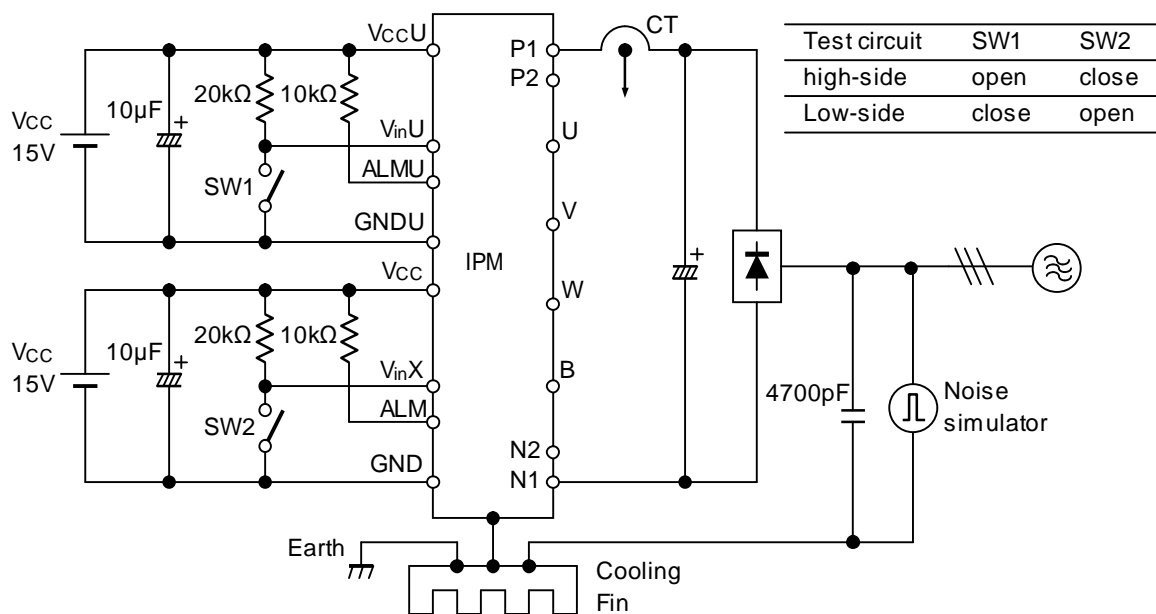

Figure9. Noise Test Circuit
7.Noise Immunity (VDC=300V, VCC=15V, Test Circuit Figure 9.)